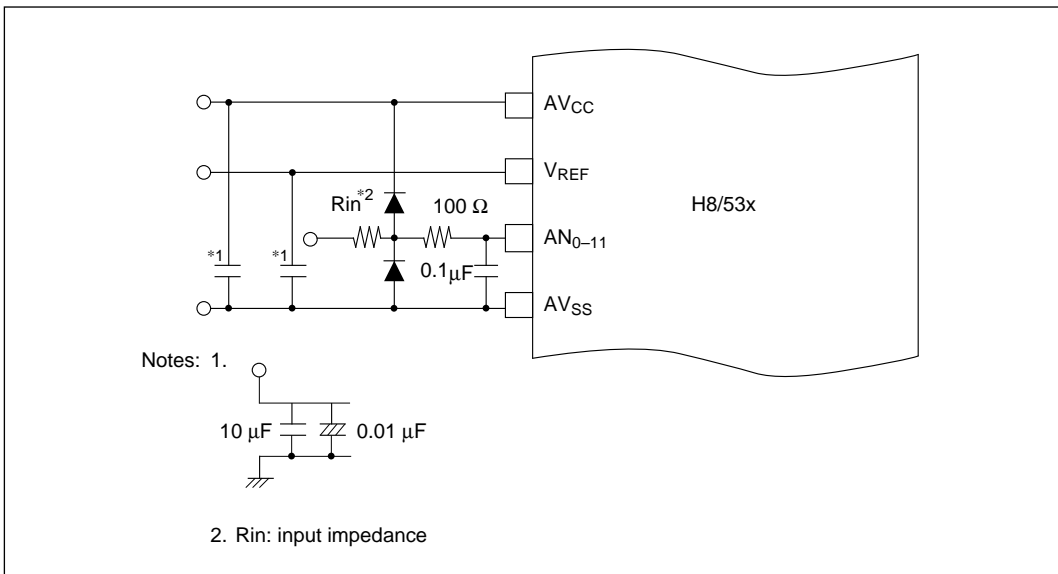

Figure 15-9 Example of Analog Input Protection Circuit
- (5) **Note on Noise:** To prevent damage from surges and other abnormal voltages at the analog input pins (AN_0 to AN_{11}) and analog reference voltage pin (V_{REF}), connect a protection circuit like the one in figure 15-9 between AV_{CC} and AV_{SS} . The bypass capacitors connected to AV_{CC} and V_{REF} and the filter capacitors connected to AN_0 to AN_{11} must be connected to AV_{SS} . If filter capacitors like those in figure 15-9 are connected, the voltage values input to the analog input pins (AN_0 to AN_{11}) will be smoothed, which may give rise to error. The circuit constants should therefore be selected carefully.
(6) To Maintain Accurate Conversion: Connect the V_{REF} and AV_{SS} pins to a stable power supply or ground. Inside the A/D converter, V_{REF} and AV_{SS} become inputs to the circuit that generates the comparison voltages during A/D conversion. External disturbances on the V_{REF} and AV_{SS} lines will have an adverse effect on accuracy.